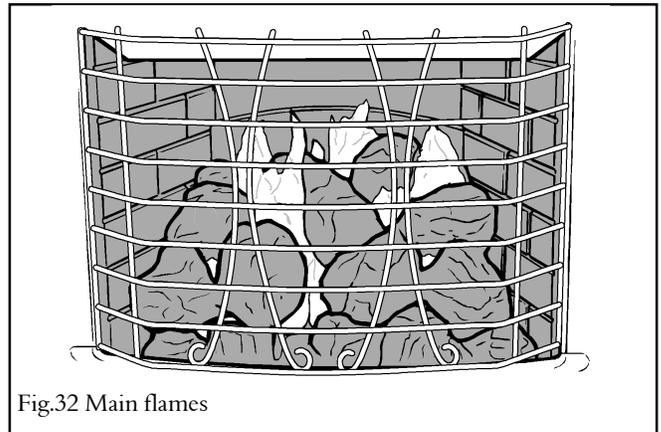
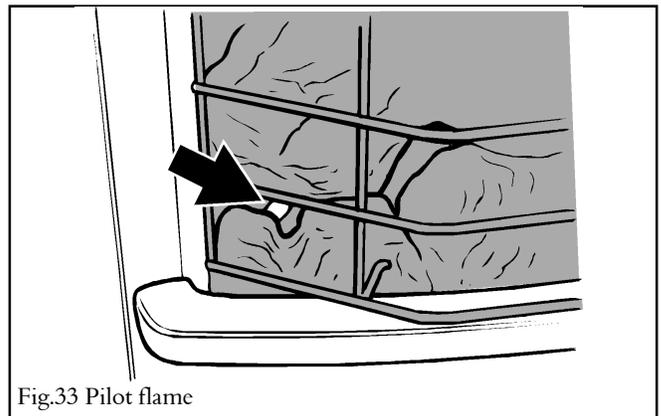

Fig.32 Main flames
Fig.33 Pilot flame
**16.4.1** A periodic visual check of the pilot and burner flames should be made. Compare the burner flames to those illustrated in figure 32. The pilot flame should be visible between the coals near the front left corner as illustrated in figure 33.